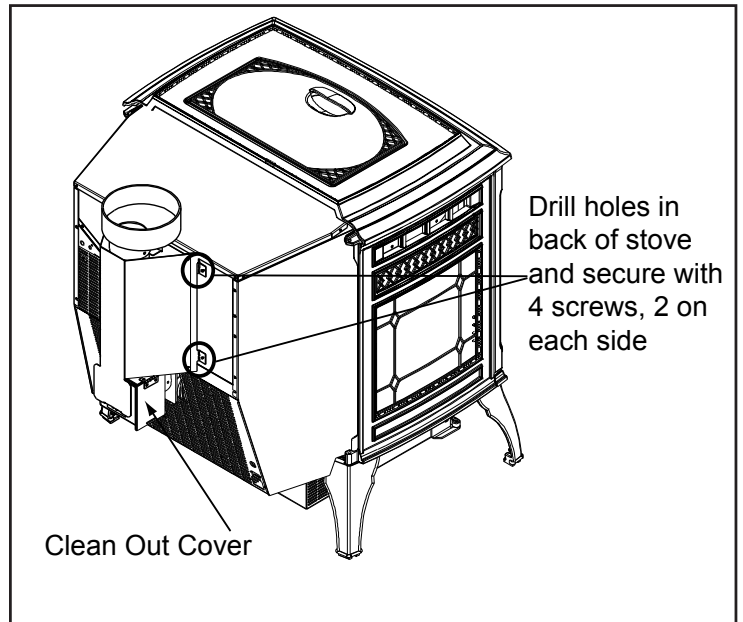

Figure 18.2
3. Drill 4 holes with #26 drill bit (provided) into the back of the appliance using the outer shield as a pattern (make sure the assembly is vertical). **Figure 18.2**
7. To clean top vent adapter, open clean-out cover. **Figure 18.2.**